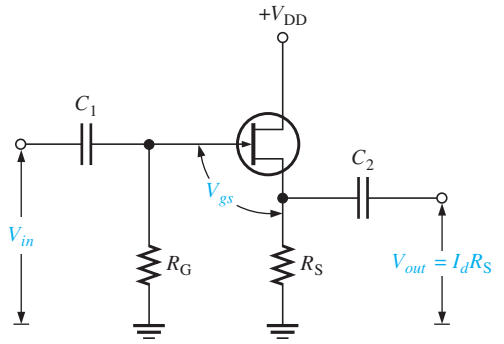

FIGURE 4-44 JFET common-drain amplifier (source-follower).
A **common-drain (CD)** JFET amplifier is shown in Figure 4-44 with voltages indicated. Self-biasing is used in this circuit. The input signal is applied to the gate through a coupling capacitor, and the output is at the source terminal. There is no drain resistor. This circuit, of course, is analogous to the BJT emitter-follower and is sometimes called a *source-follower*. It is a widely used FET circuit because of its very high input impedance.